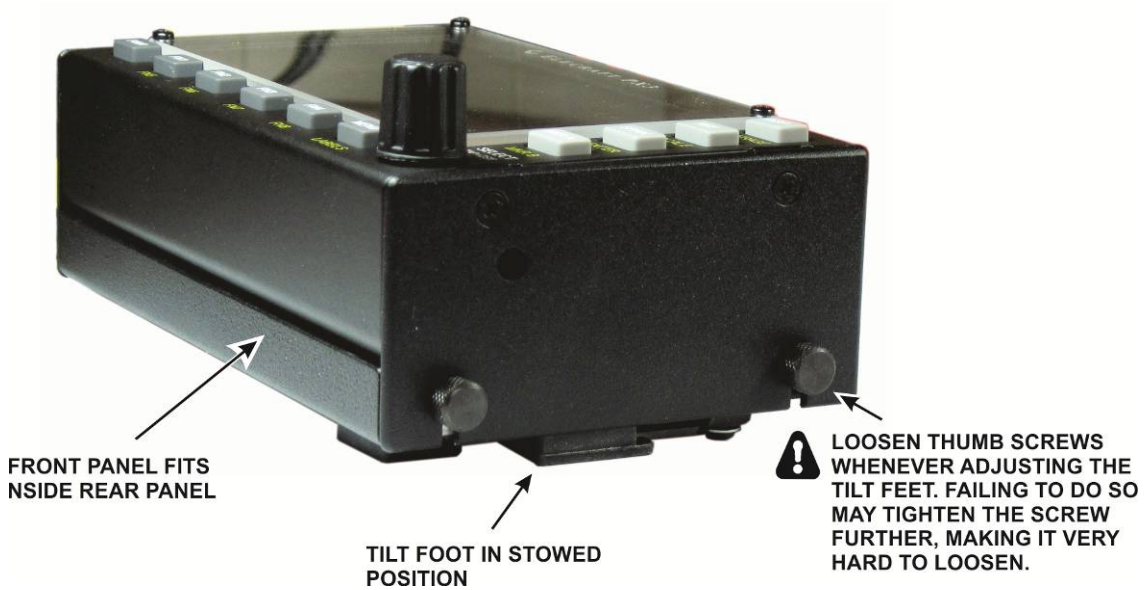

Figure 45. Assembling the Enclosure.
□ Assemble the front panel assembly and rear cover as shown in Figure 45 and tighten the thumb screws only until snug. To use the tilt feet, loosen the two rear thumb screws and swing the feet down, then retighten the thumb screws.